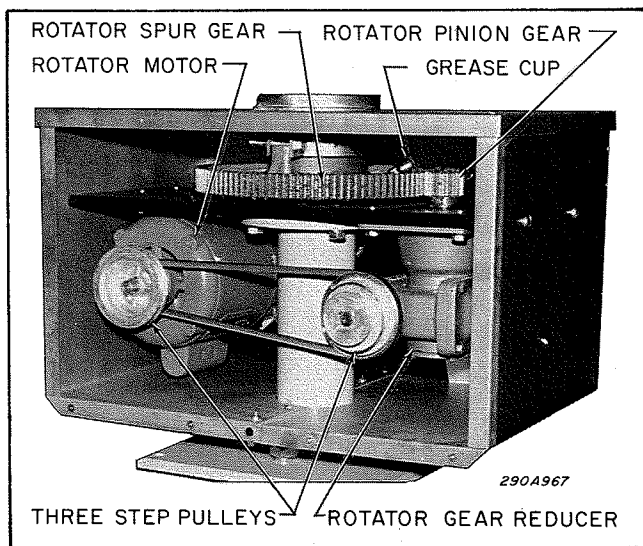

Figure 5-1. Model 1000 Rotator Assembly Interior View.
3. See figure 5-1. Pull the top part of the rotator belt toward you using the right thumb while rotating the motor pulley clockwise with the left hand. Use caution to avoid pinching your thumb between the belt and the rotator pulley. If necessary, repeat this step until the belt can be removed or is in the desired pulley grooves.